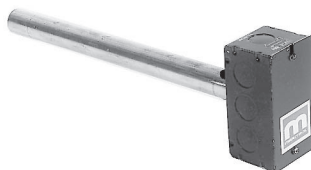

Figure 20. Sensor and Mixing Tube Assembly
- a. For units with sensor and mixing tube assembly (see Figure 20), remove ductwork access panel, slide mixing tube into ductwork, and secure sensor.